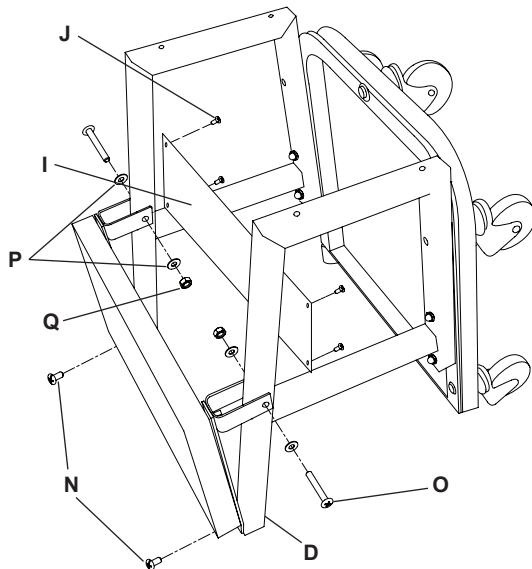

Figure 3 - Attaching Creeper Seat
3. Attach creeper Seat Cushion Assy. to creeper Side Frames (D) using two M6 x 40 Phillips Head Screws (O), with washers (P), and nuts (Q), and two M6 x 16 Phillips Head Screws (N). Then attach the Warning Plate (I) with four M6 x 12 Hex Head Bolts (J) (Fig. 3).